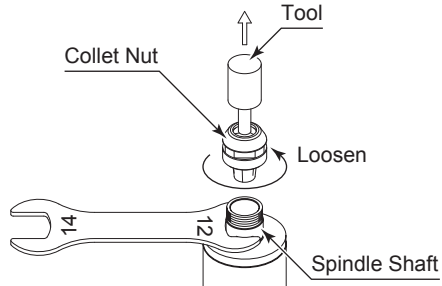

Fig. 4
- ① Remove the tool according to the section " 7. CHANGING THE TOOL " procedure above and remove collet nut assembly (Fig. 4).